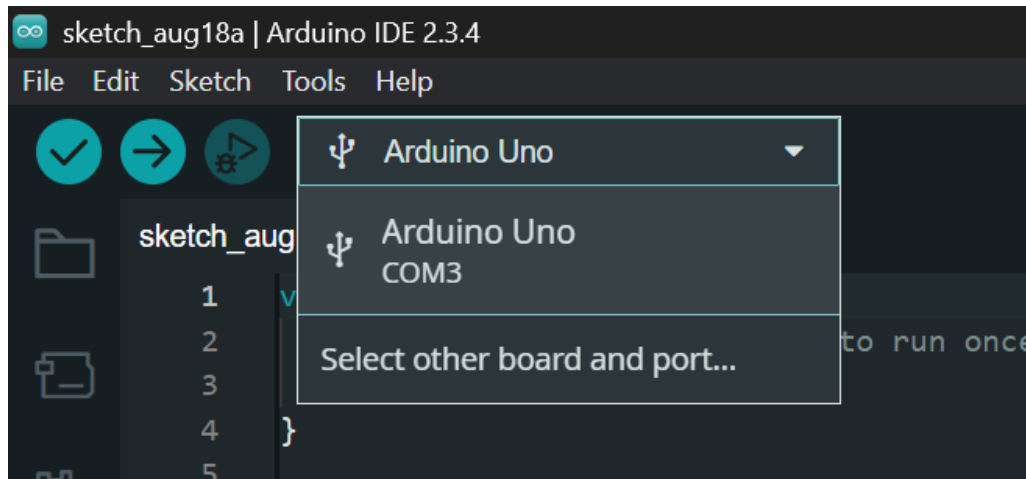

Figure 10: Arduino Selection/Connection Menu
8. Select the Arduino Uno as the board for the sketch, seen in Figure 10 below.